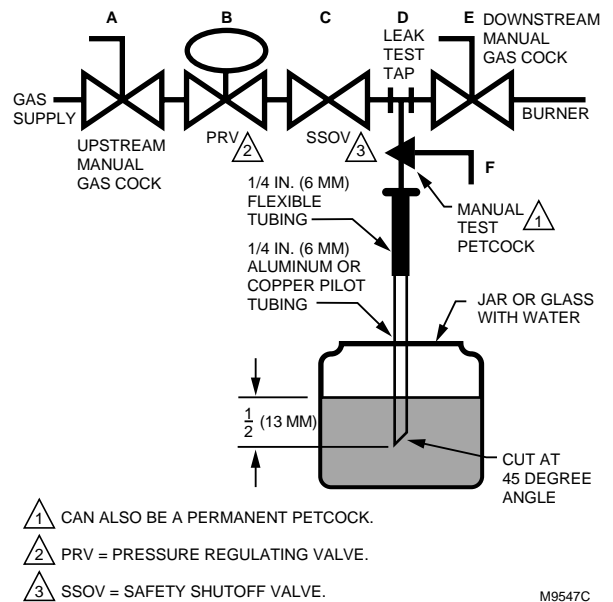

Fig. 4. Valve leak test.
Valve Leak Test (Fig. 4)
1. De-energize the control system to assure no power goes to the valve actuator (C, Fig. 4).
2. Close the upstream manual gas cock (A).
3. Make sure the manual test petcock (F) is closed in the leak test tap assembly (D).
4. Remove the leak test tap plug and connect the test apparatus to the leak tap (D).
5. Close the downstream manual gas cock (E).
6. Open the upstream manual gas cock (A).
9. Slowly open the test petcock (F).